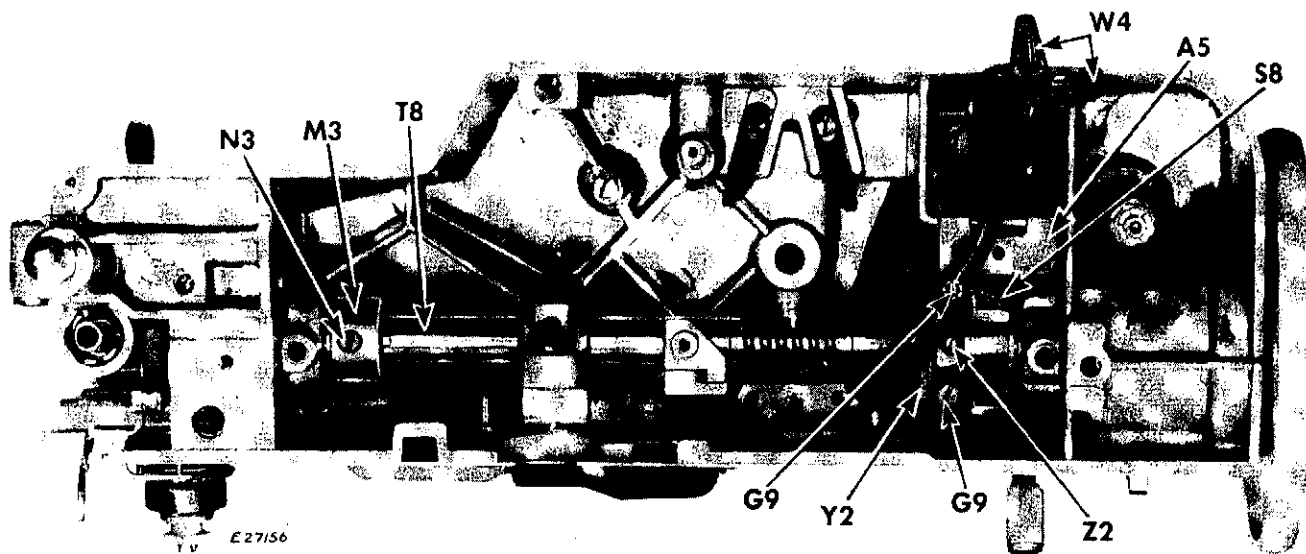

Fig. 324. Horizontal Arm Shaft
7. Loosen screw **N3** in collar **M3**, Fig. 324.
9. Using a 1/2 inch drift pin or another arm shaft (for Machine 401) drive arm shaft **T8**, Fig. 324, out of machine arm from **right to left**. Hold gear **Y2** in mesh with gear on upright arm shaft.
1. Insert a new arm shaft **T8**, Fig. 324, in head of machine at left end and push it into machine arm
from **left to right**, through collar **M3**, bevel-gear-and-eccentric **Y2** and feed forked connection **S8**, as shown in Fig. 324.
2. Make certain flat on arm shaft is under set screw **N3**, Fig. 324; then, while pressing firmly on needle bar crank, hold collar against casting and tighten set screw **N3**.
5. Replace oil shield **A5**, as shown in Fig. 324.
6. Connect motor leads to light leads and replace wire connectors **W4**, as shown in Fig. 324.